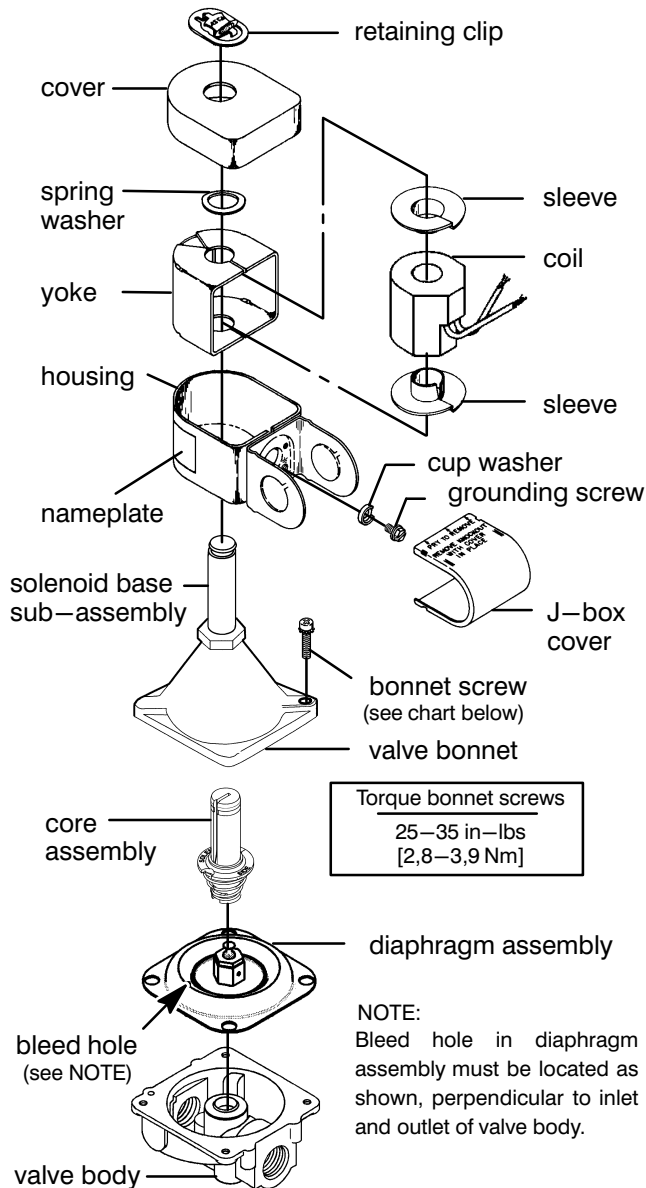

Figure 2. Exploded view, typical K3A valve.
Coil Replacement (Refer to Figure 2)
1. Disassemble valve in an orderly fashion. Paying careful attention to exploded view for identification and placement of parts. See Figure 2.
1. Reassemble valve paying careful attention to exploded view. Position valve bonnet onto valve body. Be sure bleed hole in diaphragm is in proper location, perpendicular to inlet and outlet. (See Figure 2)